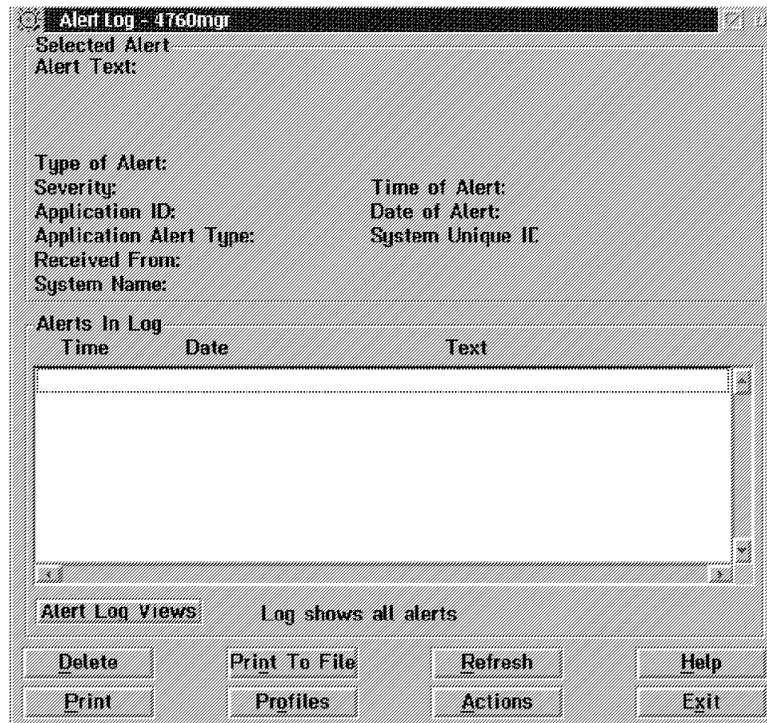

Figure 95. Alert Manager Main Window
3. Open the Alert Manager of this system (see Figure 95).
2. Select **Actions** (see Figure 95 on page 283).